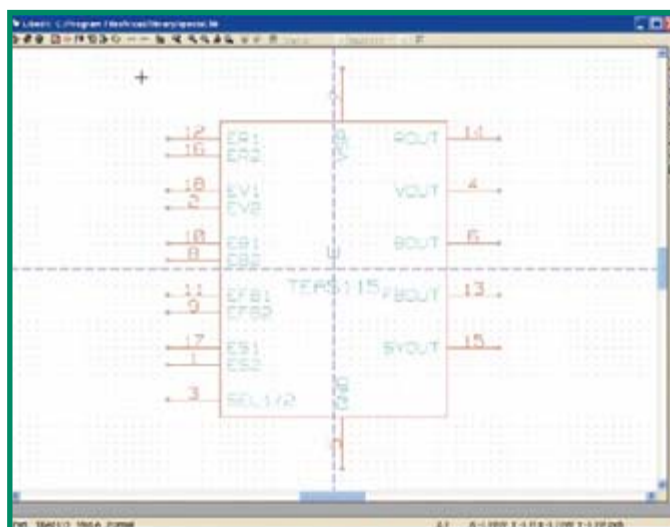

Figure 3. If you haven't found the component you need on the Internet, there is nothing to stop you from designing it with Libedit!
The upper bar has various tools: file manipulation (open, save); button (B) allows you to choose the page format (A4 to A0 and A to E, as well as a custom format defined by the user) and to fill in the various sections of the of the schematic. The next version of KiCad, which apparently is about to be released, will add an Undo/Redo function to **EeSchema**. The next two icons relate to the **Libedit** component display /editor (**Figure 3**); in fact, you can create any special symbol that you might need for your schematic. The **CVPCB** and **PCBnew** icons follow after the traditional editing tools (cut, copy, paste) and print; we will examine their role a little later. The 4 following tools deal with display: + and - zoom, drawing refresh and auto zoom which lets you have a better look by reframing the entire schematic. These functions are also accessible from the F1 to F4 function keys. When the diagram becomes cluttered, sometimes it is difficult to find R59 or U12; you can then use the search tool by clicking on (C).